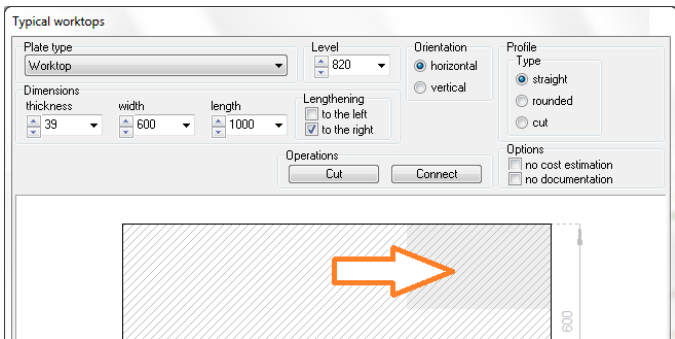

Fig. 210 – editing a corner
- click the corner for which you want to define one of the available technological cuts (Fig. 210);